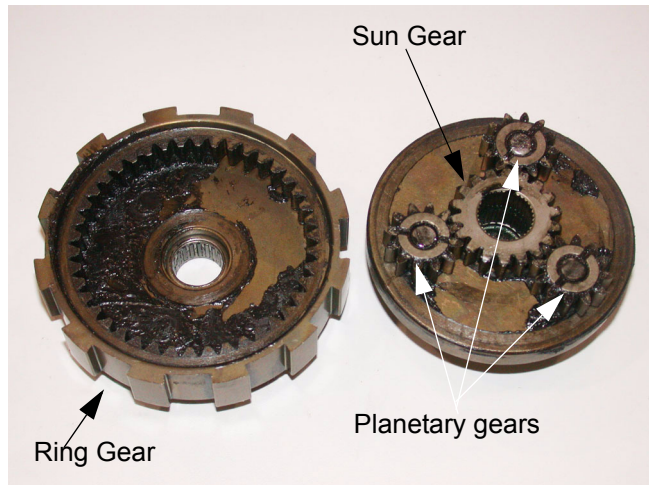

Figure 11.12
11.12. Inside of each planetary gear set is a series of planetary gears that rotate around a sun gear and rotate inside of the ring gear on the left. See Figure 11.12.